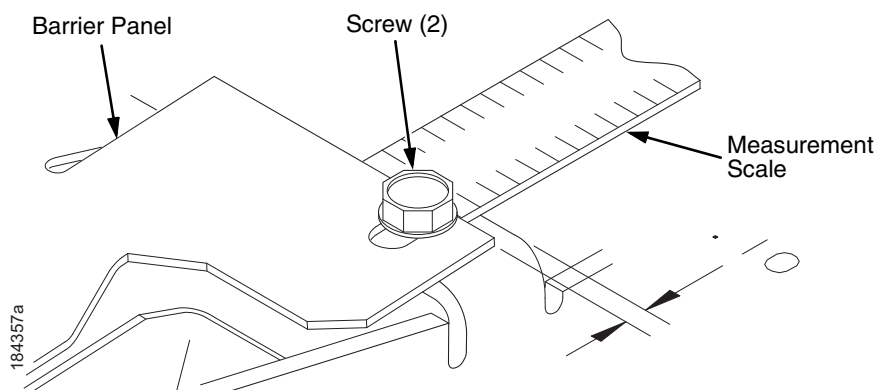

Figure 115. Using a Scale to Adjust the Barrier Panel
5. Adjust the top portion of the barrier panel so that it protrudes forward, towards the front of the printer 1/10 inch. Use a measurement scale as a guide. (See Figure 115.)